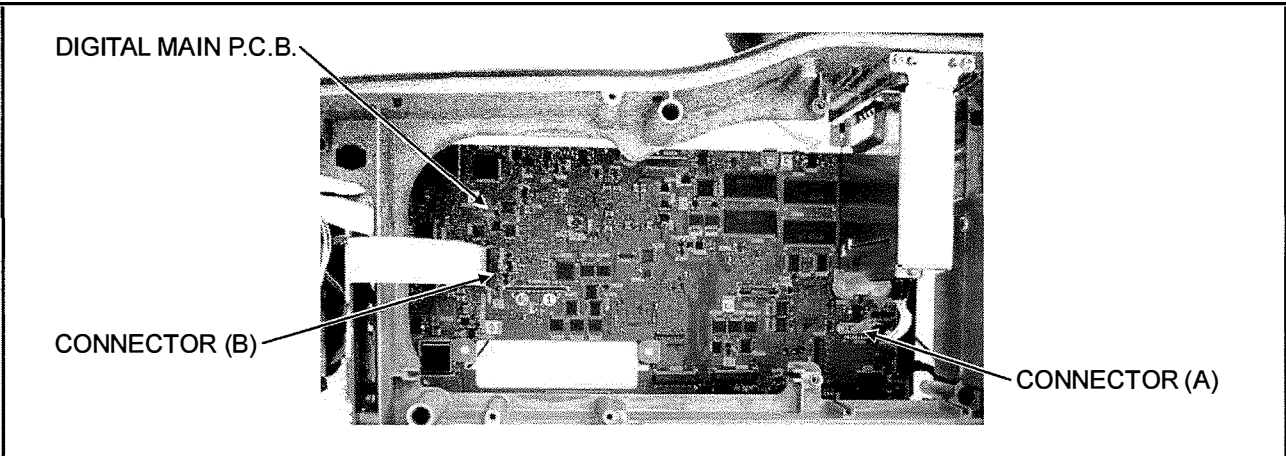

Figure 9-1
7. Disconnect the connector (A) and (B) as shown in figure 9-1.